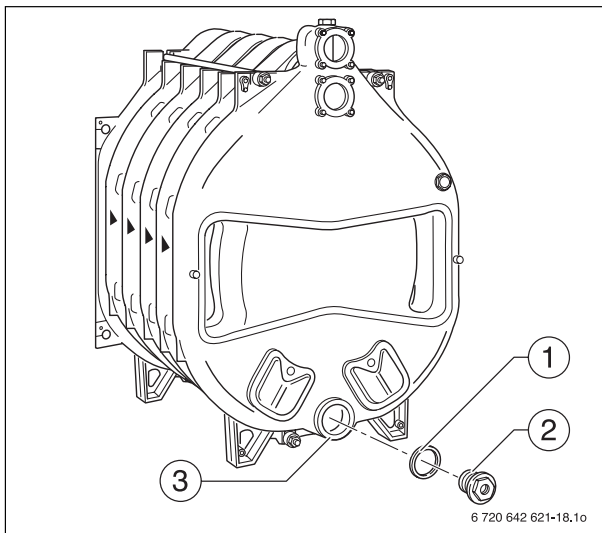

Fig. 23 Fitting the flange
- ▶ Close off lower boiler hub (Fig. 23, [3]) at the front and rear. To do this, place corresponding seal (Fig. 23, [1]) on the relevant boiler hub and seal-in the relevant sealing plug. In this case, the sealing plug with the R $\frac{3}{4}$ tapped hole for the fill and drain connection (Fig. 23, [2]) is mounted on the rear of the boiler.